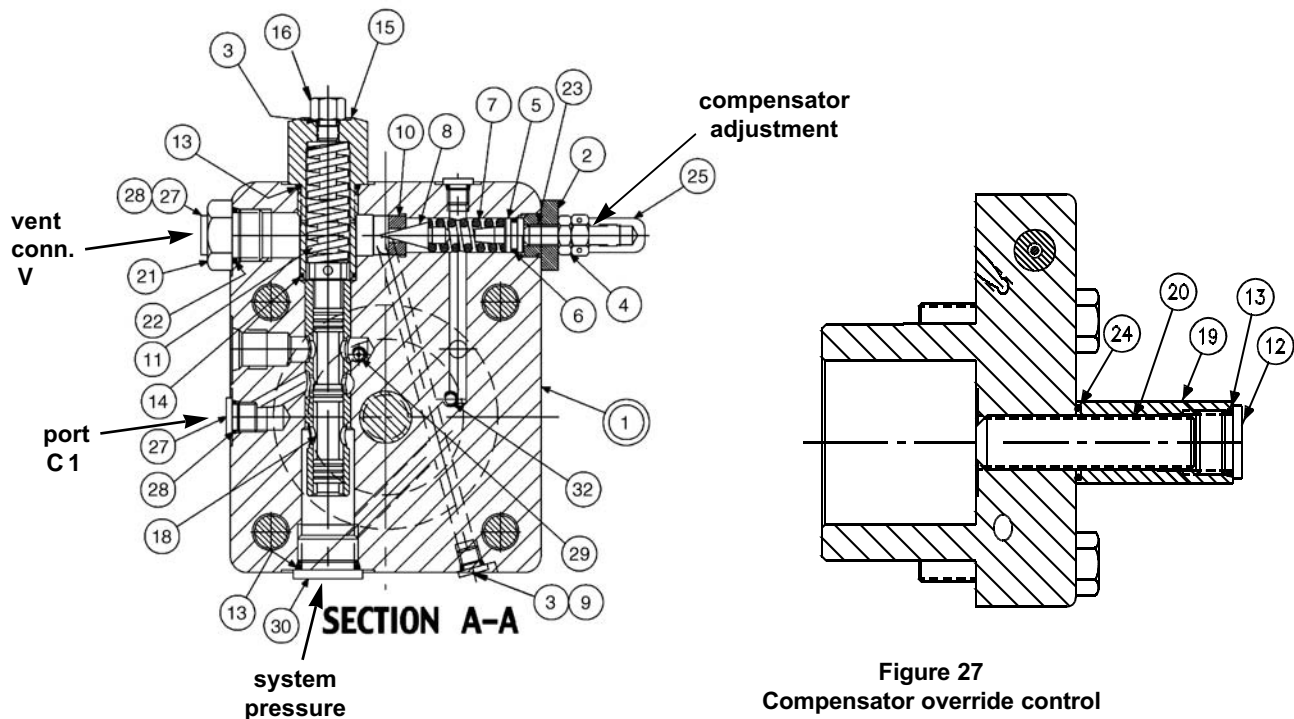

Figure 27
**PARTS LIST FOR FIGURE 27**
1. See Figure 27. Remove tube line to cap.
2. Remove maximum volume stop assembly (items 12, 13, 19, 20, 24).
4. Remove plug (15) and attached parts. Remove spring (11) and spool (18).
5. Remove adjusting plug (2) and attached parts. Remove seal piston (5). Note: a 10-24 screw may be attached to assist in pulling the piston. Remove spring (7) and cone (8).
6. Do not remove sleeve in body (1). Sleeve is pressed into cap and finished to size. If sleeve, snout or cap is worn, replace the cap-sleeve assembly (1).
7. Examine seat (10) for wear. Do not remove unless damaged.
Ref. Figure 27